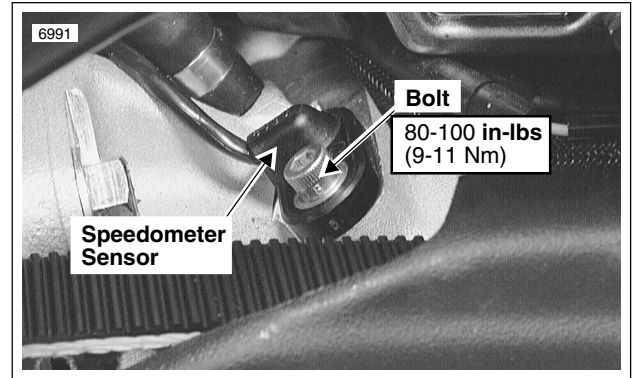

Figure 7-78. Speedometer Sensor
1. See Figure 7-78. Remove bolt to detach speedometer sensor from crankcase.
1. See Figure 7-78. Install speedometer sensor to crankcase with bolt. Tighten bolt to 80-100 **in-lbs** (9-11 Nm).